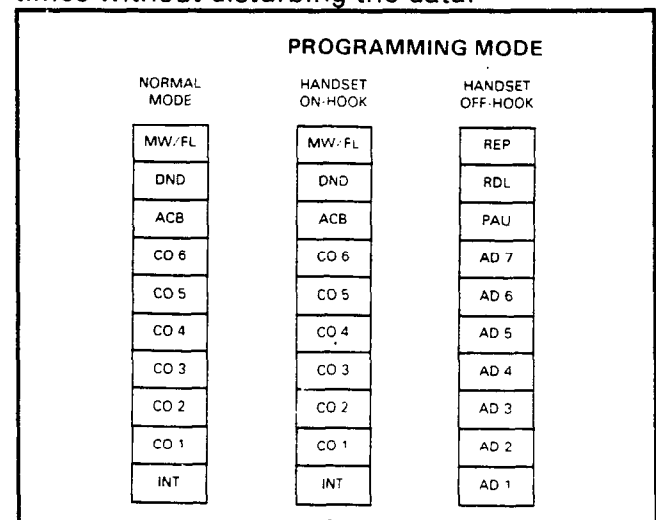

FIGURE 1—10-key EKT KEY FORMAT
02.23 As shown in Figure 1, the key/LEDs on a 10-key EKT represent INT, CO1 - CO6, ACB, DND and MW/FL when the handset is on-hook and AD1 - AD7, PAU, RDL and REP when the handset is off-hook. It is possible to switch back and forth an unlimited number of times without disturbing the data.